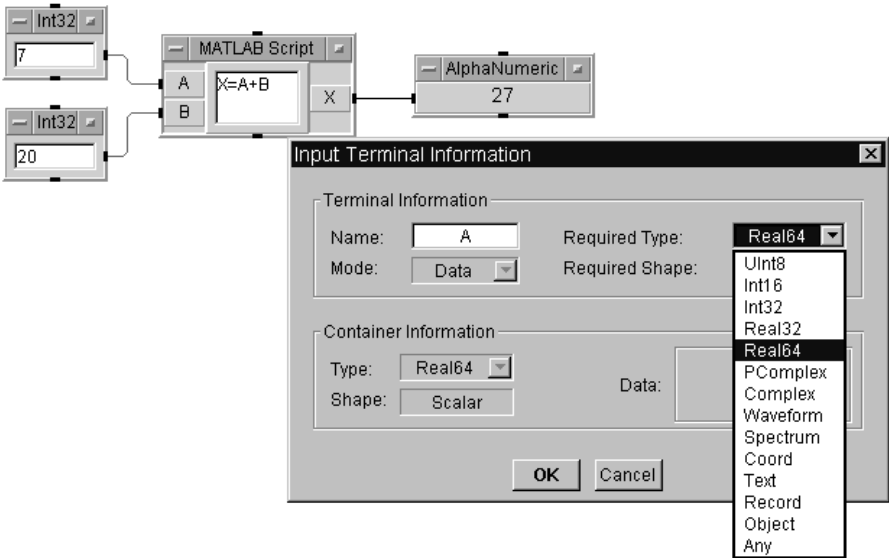

Figure 123 Changing Input Terminal Data Type
- 5 Double-click on terminal **A** to open the Input Terminal Information dialog box. Click on **Required Type:** to display the drop-down menu, select Real64, and click **OK**. Double-click on terminal **B** and change it to a Real64 as well, as shown in Figure 123.